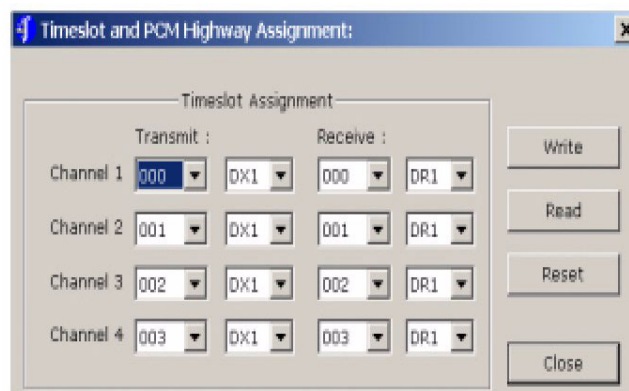

FIGURE 9. TIMESLOT & PCM HIGHWAY ASSIGNMENT SCREEN
This test will demonstrate an end to end phone conversation between Channel 1 and Channel 2. Setting up an end to end phone conversation is accomplished with the Timeslot and PCM Highway Assignment screen (Figure 9). The user can select any time slot for Channels transmit and receive. If the time slot assigned to the receive path of Channel X is the same one assigned to the transmit path of Channel Y, and the time slot assigned to the transmit path of Channel X is the same one assigned to the receive path of Channel Y, then Channel X and Channel Y can communicate with each other.
4. From MPI Software screen, Select Timeslot. The Timeslot and PCM Highway Assignment screen will appear (Figure 9).